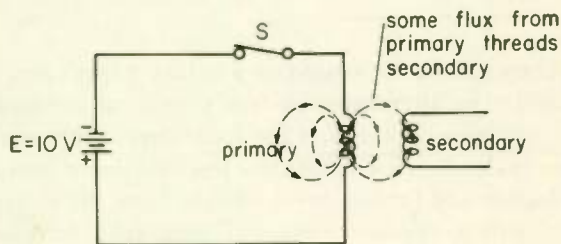

Fig. 27
3. Yes... See Fig. 27. Some of the flux from the primary is still threading the secondary and thus inducing a voltage.